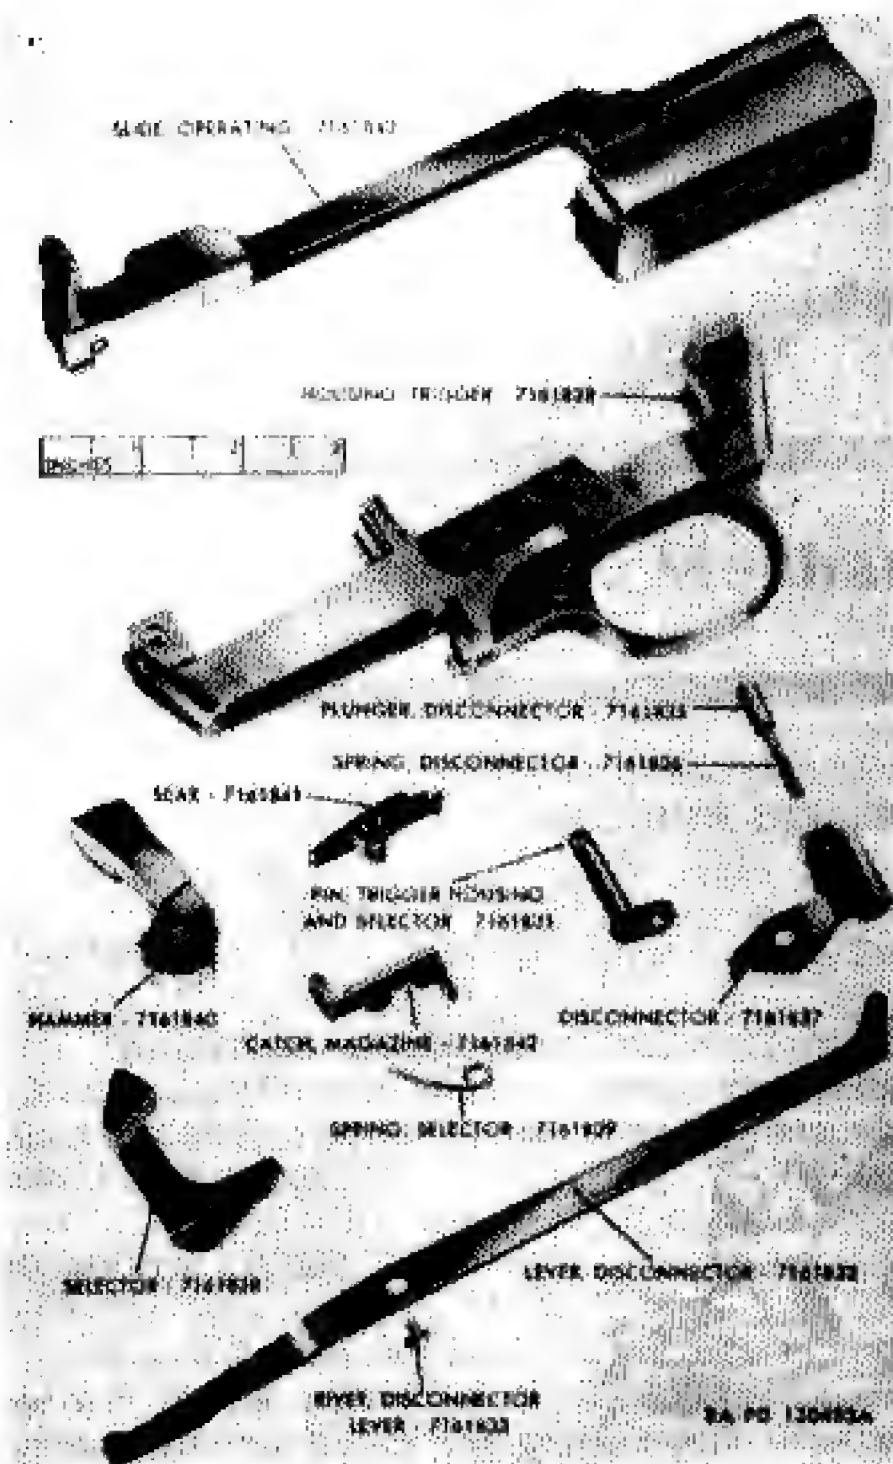

Figure 3b. Operating parts for carbines M2 and M3.
*d. Component Differences Between Full Automatic and Semi-Automatic Carbines* (Fig. 3b).